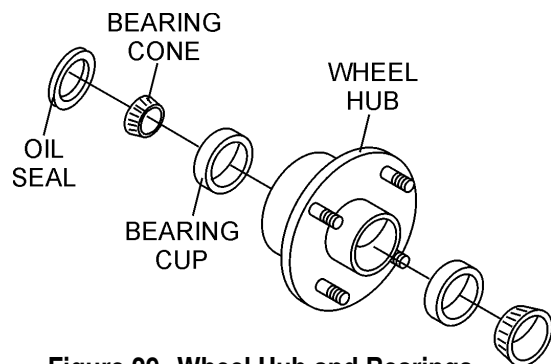

Figure 29. Wheel Hub and Bearings
1. After every 3 months of operation, remove the hub dust cap and inspect the wheel bearings (Figure 29). Once a year, or when required, disassemble the wheel hubs remove the old grease and repack the bearings forcing grease between rollers, cone and cage with a good grade of high speed wheel bearing grease (**never** use grease heavier than 265 A.S.T.M. penetration ("No. 2.")